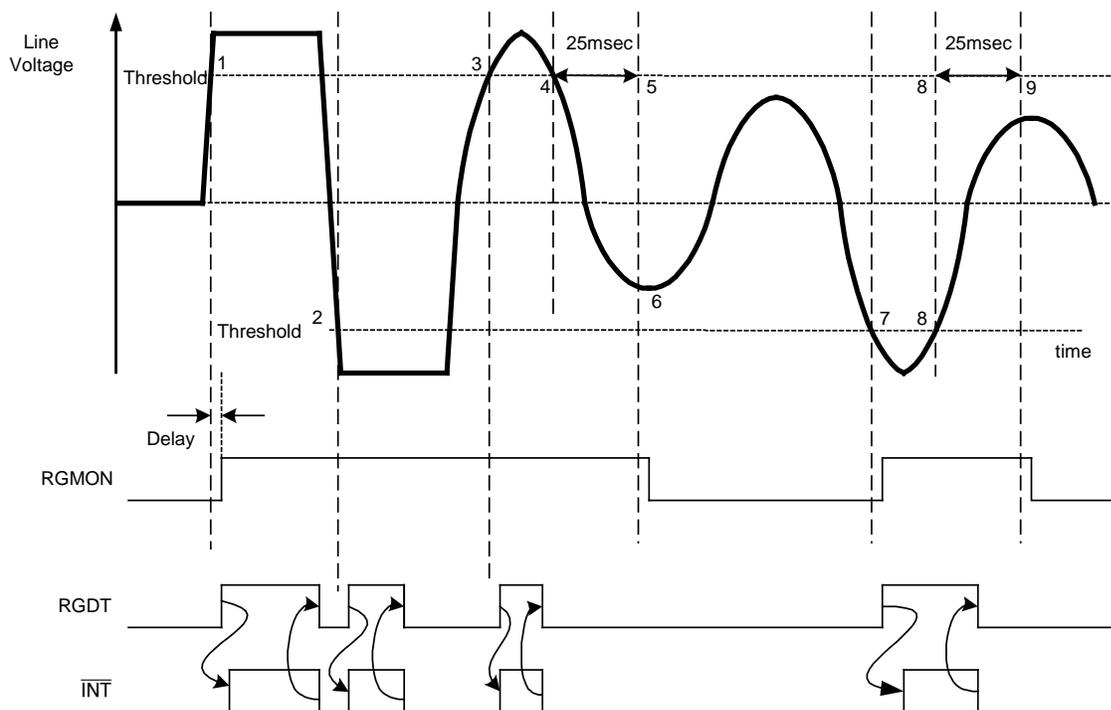

Figure 3: Ring Detection
When the 73M1966 is in on-hook mode, and when the ring detect interrupt is enabled (ENRGDT), a ring signal can be detected. Figure 3 shows the possible scenarios that can be encountered on the line.
The threshold voltage for detecting the ring signal is programmable in the 73M1x66B (RGTH[1:0]). When the line voltage exceeds the programmed threshold, the 73M1x66B asserts the hardware interrupt output pin (INT) and asserts both RGDT and RGMON in the interrupt register, as illustrated by "1" and "3" in Figure 3. Note that the behavior is identical when the line voltage goes below the programmed threshold, as shown by "2" and "7" in Figure 3.
1. The line voltage is above (or below) the upper (lower) threshold level shown in Figure 3 and
2. A time period of 25 ms has not elapsed after the line voltage crossed back over the threshold level. The activity of the timer ruling RGMON is indicated by "4" and "5" (as well as "8" and "9") in Figure 3.
If the line voltage does not exceed the threshold within the 25 ms period, RGMON becomes de-asserted, as illustrated by "6" and "9" in Figure 3.